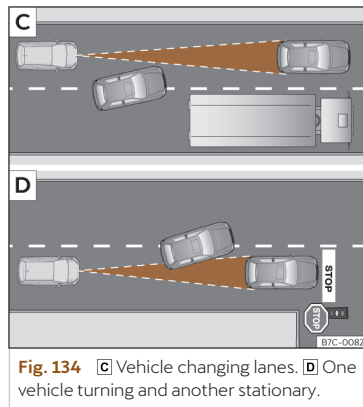

Fig. 134 **C** Vehicle changing lanes. **D** One vehicle turning and another stationary.
- Vehicles that move into your lane, a short distance from your vehicle >>> **Fig. 134 C**.
The ACC may not react to stationary vehicles. If, for example, a vehicle detected by the ACC turns or moves over and there is a stationary vehicle in front of it, the ACC will not react to the second vehicle >>> **Fig. 134 D**.